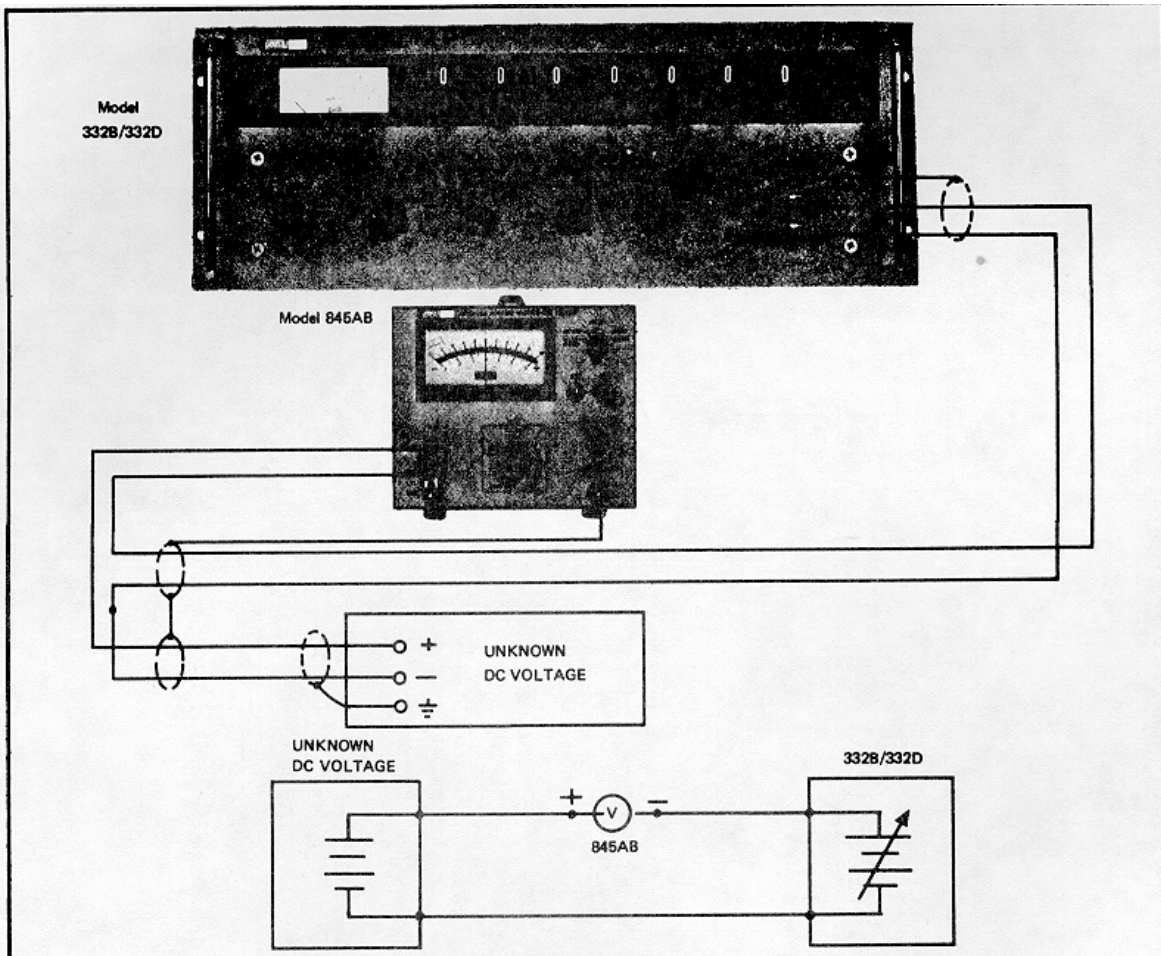

Figure 2-5. OPERATION AS 20 PPM DIFFERENTIAL VOLTMETER
- a. Connect the equipment as shown in Figure 2-5.
comparing voltages to 1.0 ppm resolution. An application is the comparison of saturated and unsaturated standard cells. Connect the equipment as shown in Figure 2-5. Determine the value of the unknown standard cell as follows: